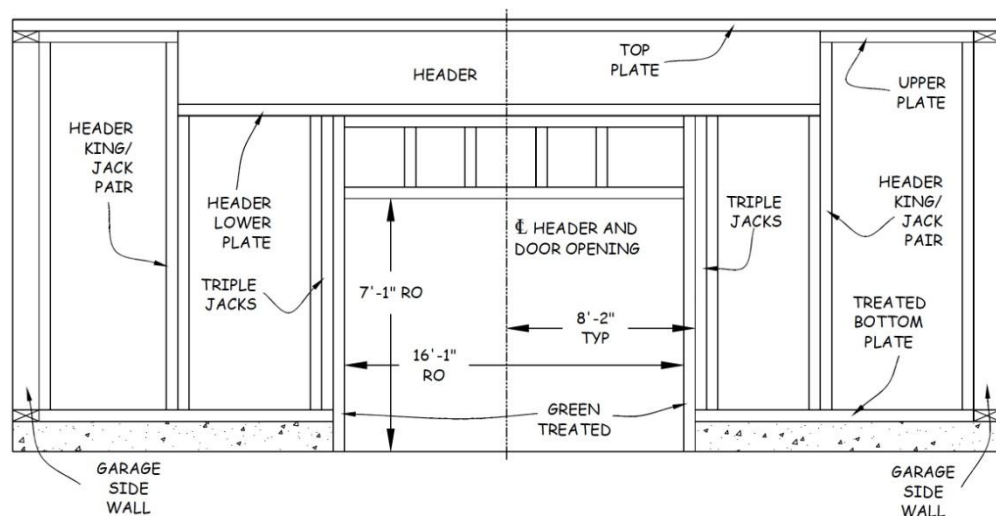

Figure 23.4. Overhead Door (OHD) Wall Assembly.
1. Erect the side and back walls, and stabilize them before laying out the OH door wall. Refer to Figure 23-4 for the following steps.
22. With the bottom treated plates on the garage foundation, and the upper plates on the garage slab, assemble the wall as shown on Figure 23-4 with all of the components described above except the header pieces.